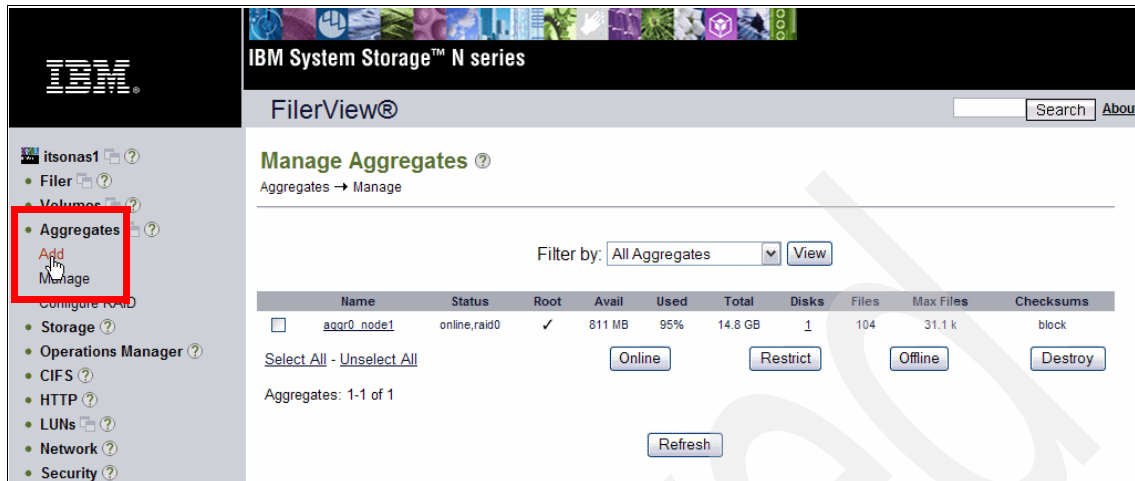

Figure 7-7 Add an Aggregate
1. In FilerView, as shown in Figure 7-7 on page 207, under Aggregates, click **Add**.